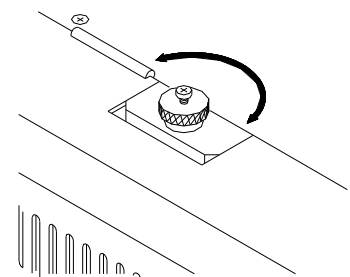

Fig. 7
In case the pressure roller is not needed, it can be disabled. By turning the ring (fig. 7 pos 1) clockwise the pressure roller is lifted upwards.